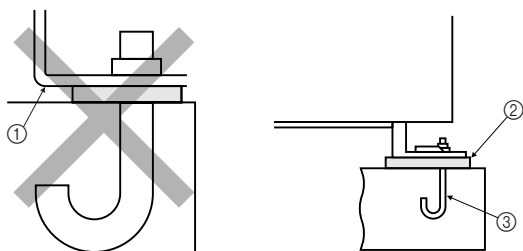

Fig. 4-3
4.3. Anchoring (Fig. 4-3)
- ① Receiving the corner section.
- ② Make sure that the corner section is securely received. If the corner section is not securely received, the anchoring points could bend.
- ③ Procure the M10 anchor bolts locally.